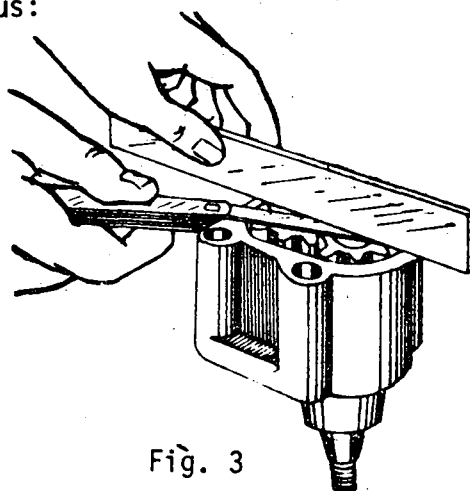

Fig. 3
- a) Measure the axial play of the gears (Fig. 3).